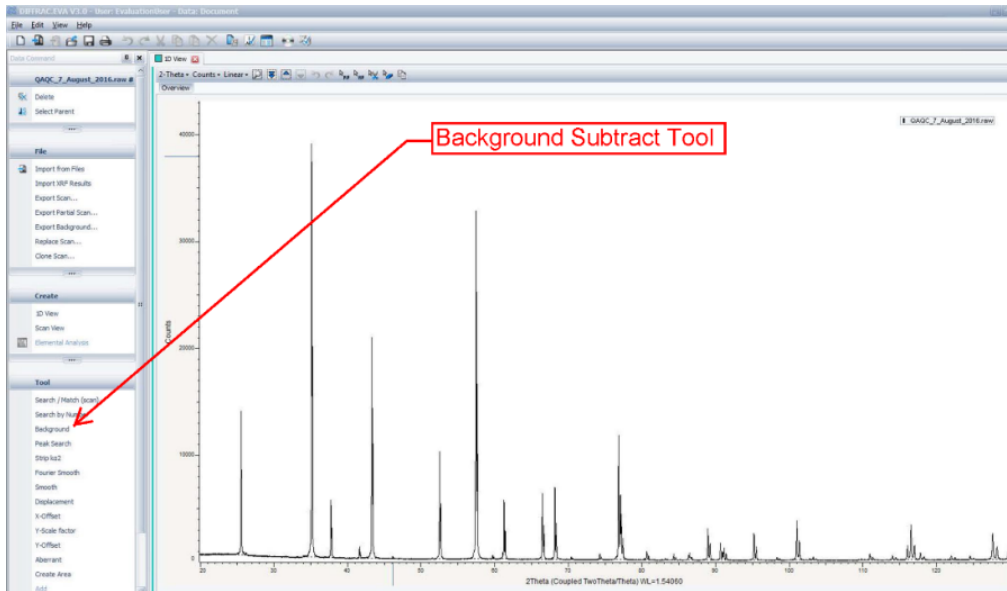

Figure 19. EVA diffractogram.
2. Subtract the background (do not append, just simply close background menu) (*Figure 19*).